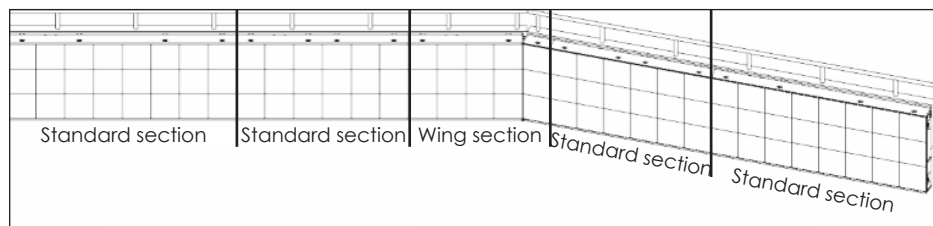

Figure 22: Open Wing Beverage Shroud
1. Open or remove the wing beverage shroud. Refer to **Figure 22**.